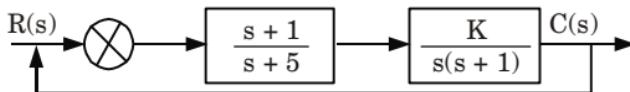

Fig. 3.
- b. What do you understand by the term sensitivity? Consider the feedback control system shown in Fig. 3. The normal value of the process parameter 'K' is 1. Determine the